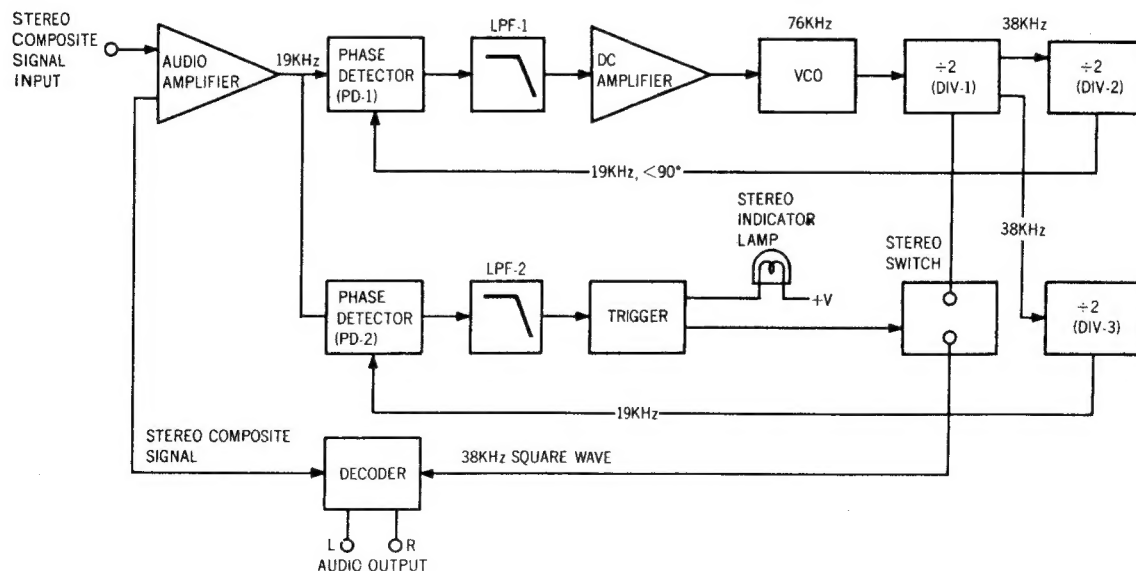

Figure 1. Block Diagram of the HA1156
coupled audio amplifier, where the signals are amplified and fed to output terminals J311 and J313. From these terminals, the audio signals are fed to the TAPE MONITOR OUT jacks through the function switch. Figure 1 presents an internal block diagram showing the functions of the PLL MPX stereo decoding IC HA1156. The input stereo composite signal, amplified by the audio amplifier, is delivered to the phase detectors PD-1 and PD-2. A part of the stereo composite signal is also delivered to the stereo decoder section. The VCO (Voltage Control Oscillator) produces a free run oscillation of approximately 76kHz with the time constant determined by capacitor C305 and resistors R311 and R312 connected on the outside to pin ⑭. The VCO output has its frequency divided down to 19kHz through the two frequency divider stages (DIV-1, DIV-2), and is returned to the phase detector PD-1, which contains two input terminals designed to produce an output in proportion to the product of the two input signals. The signal fed to one PD-1 input is a 19kHz square wave formed through frequency division of the 76kHz VCO output signal by the two frequency divider stages DIV-1 and DIV-2, and the 19kHz pilot signal included in the stereo composite signal, as a reference signal is fed to the other PD-1 input. Therefore, the output of PD-1 which has gone through the low pass filter, LPF-1, provides DC output voltage in proportion to the phase variance between the two inputs. This DC output voltage is amplified by the DC amplifier, and is supplied to the 76kHz VCO as a control voltage. This means that the output frequency and phase of the VCO have been phase-locked to the input pilot signal. The 38kHz sub-carrier reproduced by the PLL, as stated above, is delivered through the stereo switch to the stereo decoder section as a switching signal, thus driving the decoder stage. One of the inputs of PD-2 is given the 19kHz resulting from the frequency division completed by DIV-1 and DIV-3, whereas the other input receives the 19kHz output contained in the composite signal, and the output is provided with a DC component in proportion to the amplitude of the pilot signal.